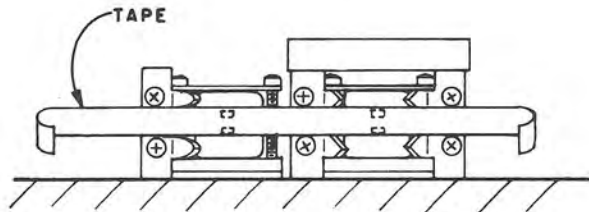

FIGURE 5-15
- a. Position the transparent tape across the face of the heads as the tape would be positioned if a cartridge was being played. See Figure 5-15. Check to see that the tape is not being distorted (wrinkled) where it makes contact with the tape guides and attach it to one of the tape guide support blocks with adhesive tape to free one hand for adjustments.